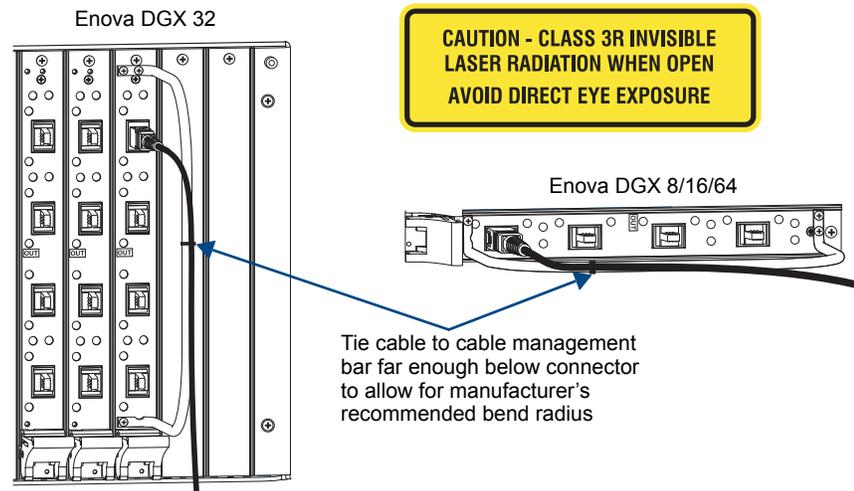

FIG. 69 Fasten cables onto input and output connectors (shown with cable management bar)
4. Insert the fiber cable connector into the input and output SC fiber receptacles (FIG. 69).